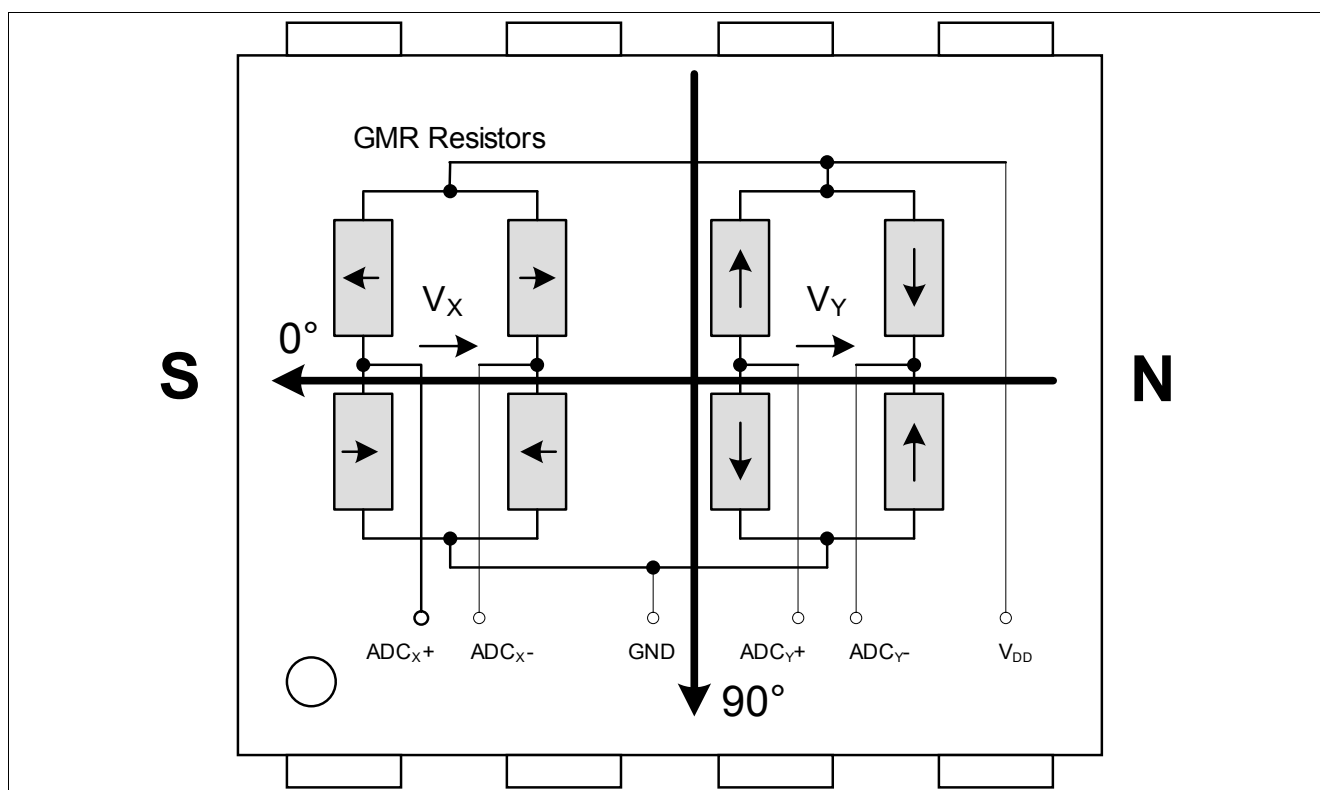

Figure 2 Sensitive bridges of the GMR sensor (not to scale)
**Attention:** Due to the rotational placement inaccuracy of the sensor IC in the package, the sensors  $0^\circ$  position may deviate by up to  $3^\circ$  from the package edge direction indicated in Figure 2.
In Figure 2, the arrows in the resistors represent the magnetic direction which is fixed in the reference layer. If the external magnetic field is parallel to the direction of the Reference Layer, the resistance is minimal. If they are anti-parallel, resistance is maximal.